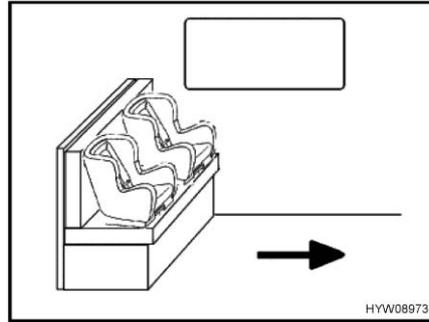
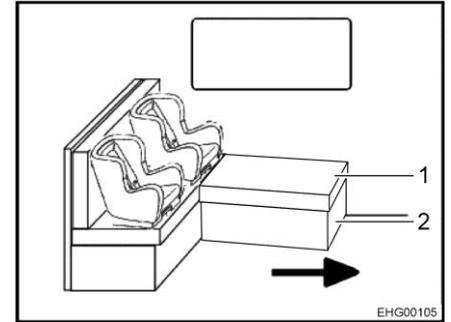

Fig. 19 Child seats on bench
Fig. 20 Child seats on L-shaped bench
The arrow in Fig. 19 and Fig. 20 shows the direction of travel.
- Remove the cushion (Fig. 20,1) if necessary.
- Fold the chest frame (Fig. 20,2) if necessary.